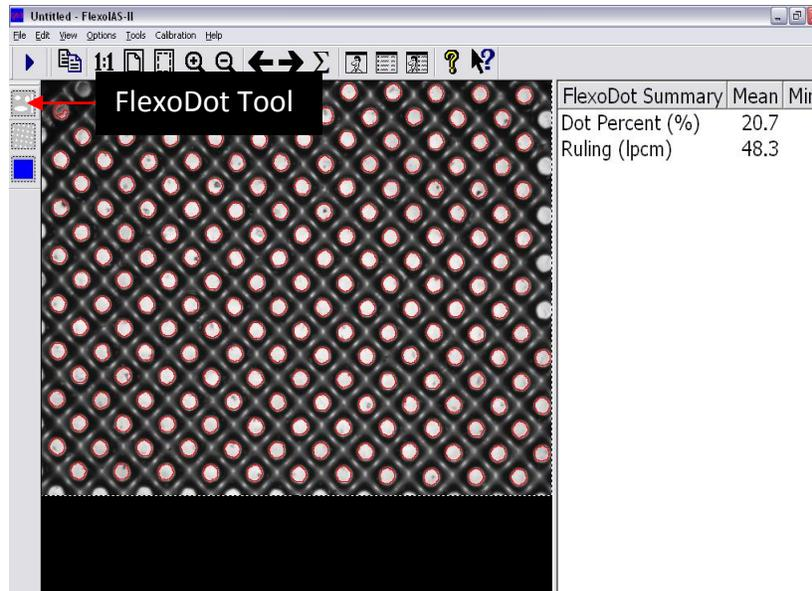

Fig. 14. Interactive analysis using the FlexoDot Tool.
1. Real-world analyses of halftone patterns produce more results in the results pane, including dot diameter, dot shape, dot location, screen angle, etc., than are shown here. For the sake of simplicity, the results displayed in Fig. 14 are limited to Dot% and Line Screen for day-to-day process control applications. How to show additional analysis results will be described in the Software Reference Guide later in this User's Guide.